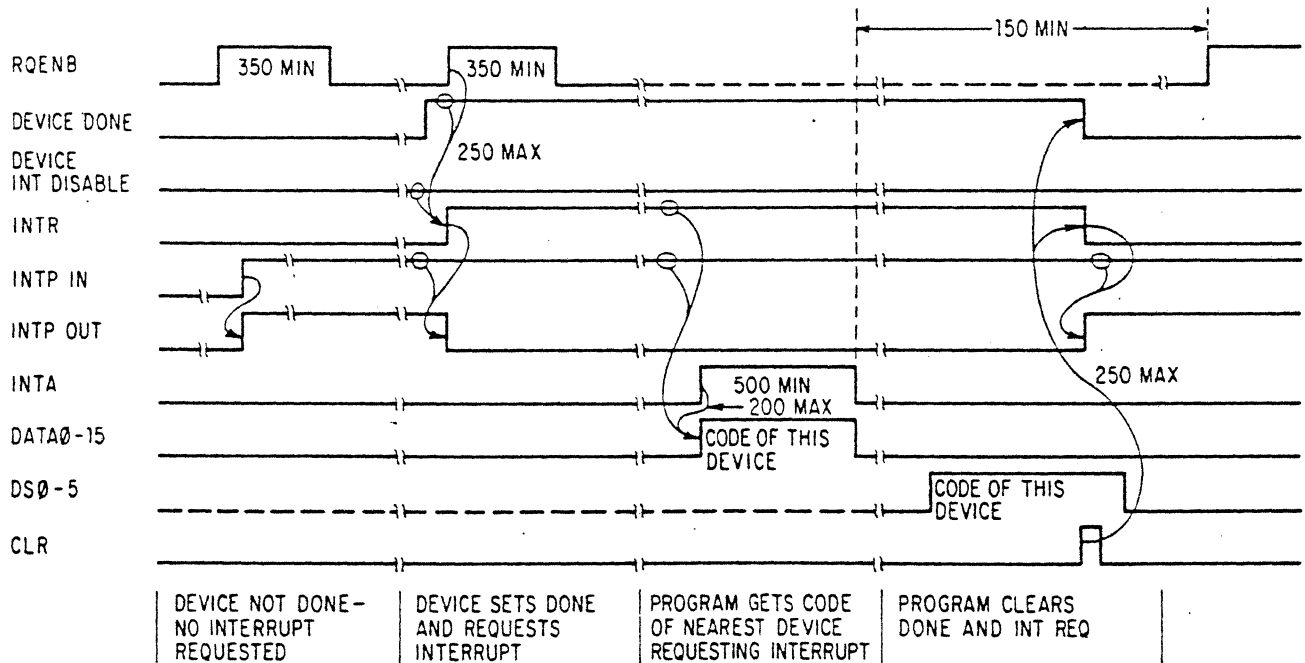

Figure 4-11 PROGRAM INTERRUPT
4.32 PROGRAM INTERRUPT (Figure 4-11). When the controller completes an operation it sets its Done flag. The processor generates RQENB, which places the interrupt request signal INTR on the bus. The leading edge of RQENB is used to set INT REQ to ensure sufficient time for the serial INTP function to settle down before the processor attempts to discover which device has priority. The controller receives INTP IN only if there is no higher priority device requesting an interrupt; the INTP signal terminates at the first device whose INT REQ flip/flop is set. If the program is to use the same device again, it must clear Done so the device will not immediately request an interrupt when the interrupt system is turned back on and interrupt Disable is cleared.